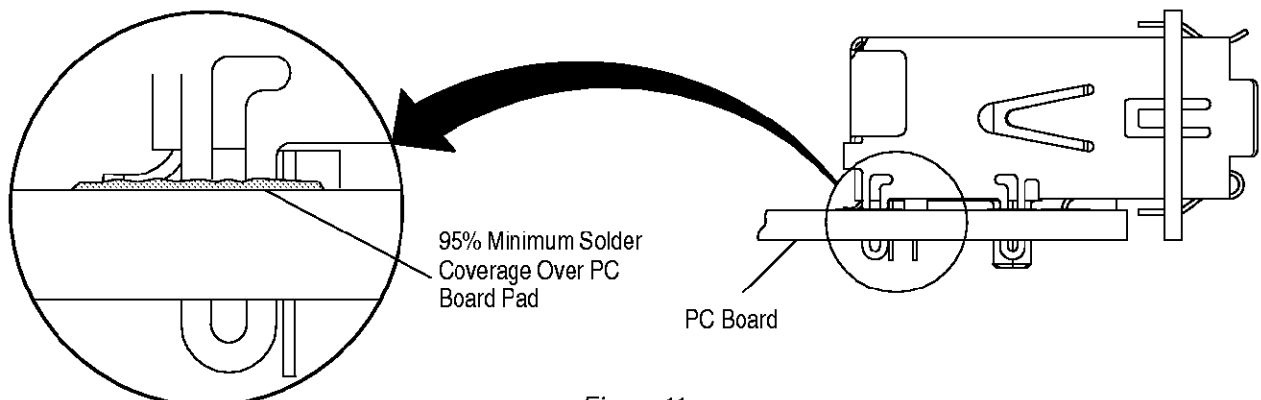

Figure 11
1. Solder must have 95% minimum solder coverage over the pc board pad. See Figure 11.